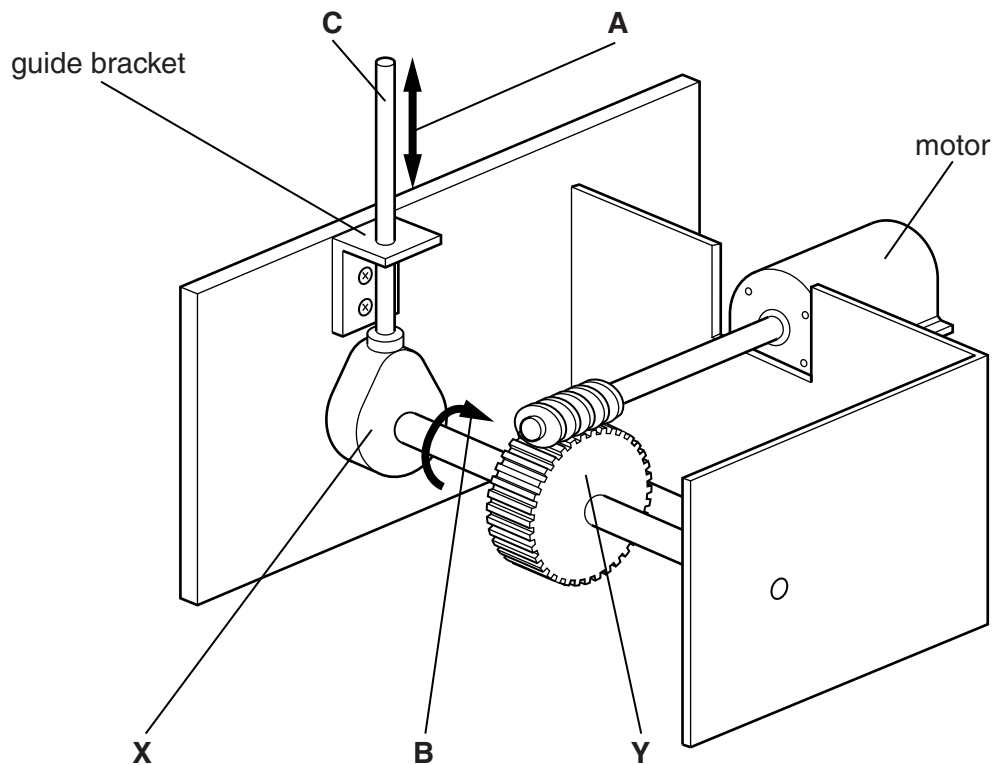

Fig. 4
- 18 Fig. 4 shows a mechanism for a moving display in a shop window. The mechanism is driven by a small electric motor.